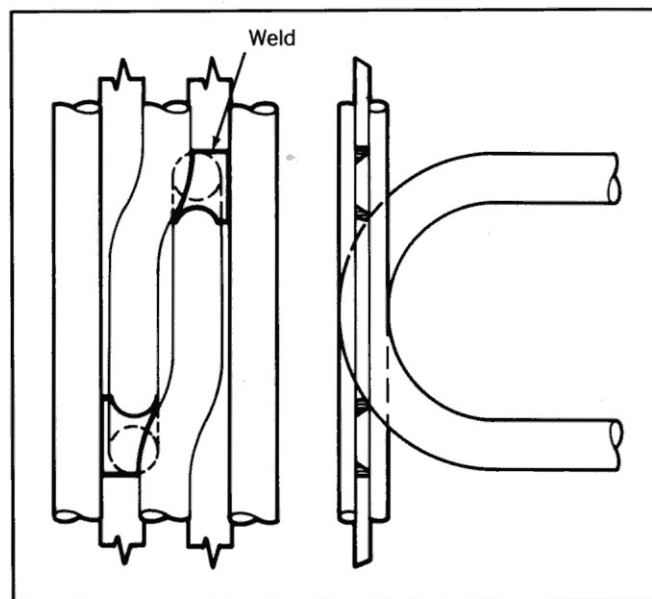

Figure 2 New all welded mix area.
Mixes are required for B&W UP boilers, having up-up circuitry to eliminate fluid flow temperature unbalances and the potential for overheating tubes. To eliminate the cracking problem, B&W developed the all welded mix design in 1973. Figure 2 shows this construction. The all welded mix has proven to be a maintenance-free design, which has been demonstrated on many boilers, including both original and retrofitted equipment.
2. Replace the existing mix tube bend area with the all welded construction as shown in Figure 2. This is the best positive step for completely eliminating the cracking problems as well as the annual refractory repairs necessary with the solution described in 1 above.